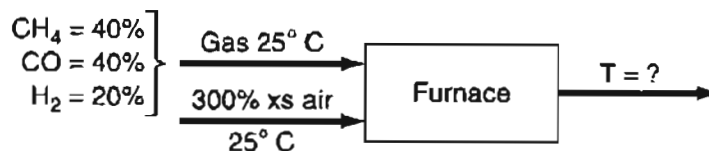

Figure P26.15
****26.15** A gas is burned with 300% excess air with the gas and air entering the combustion chamber at 25°C . What is the theoretical adiabatic flame temperature achieved in $^\circ\text{C}$? See Figure P26.15.